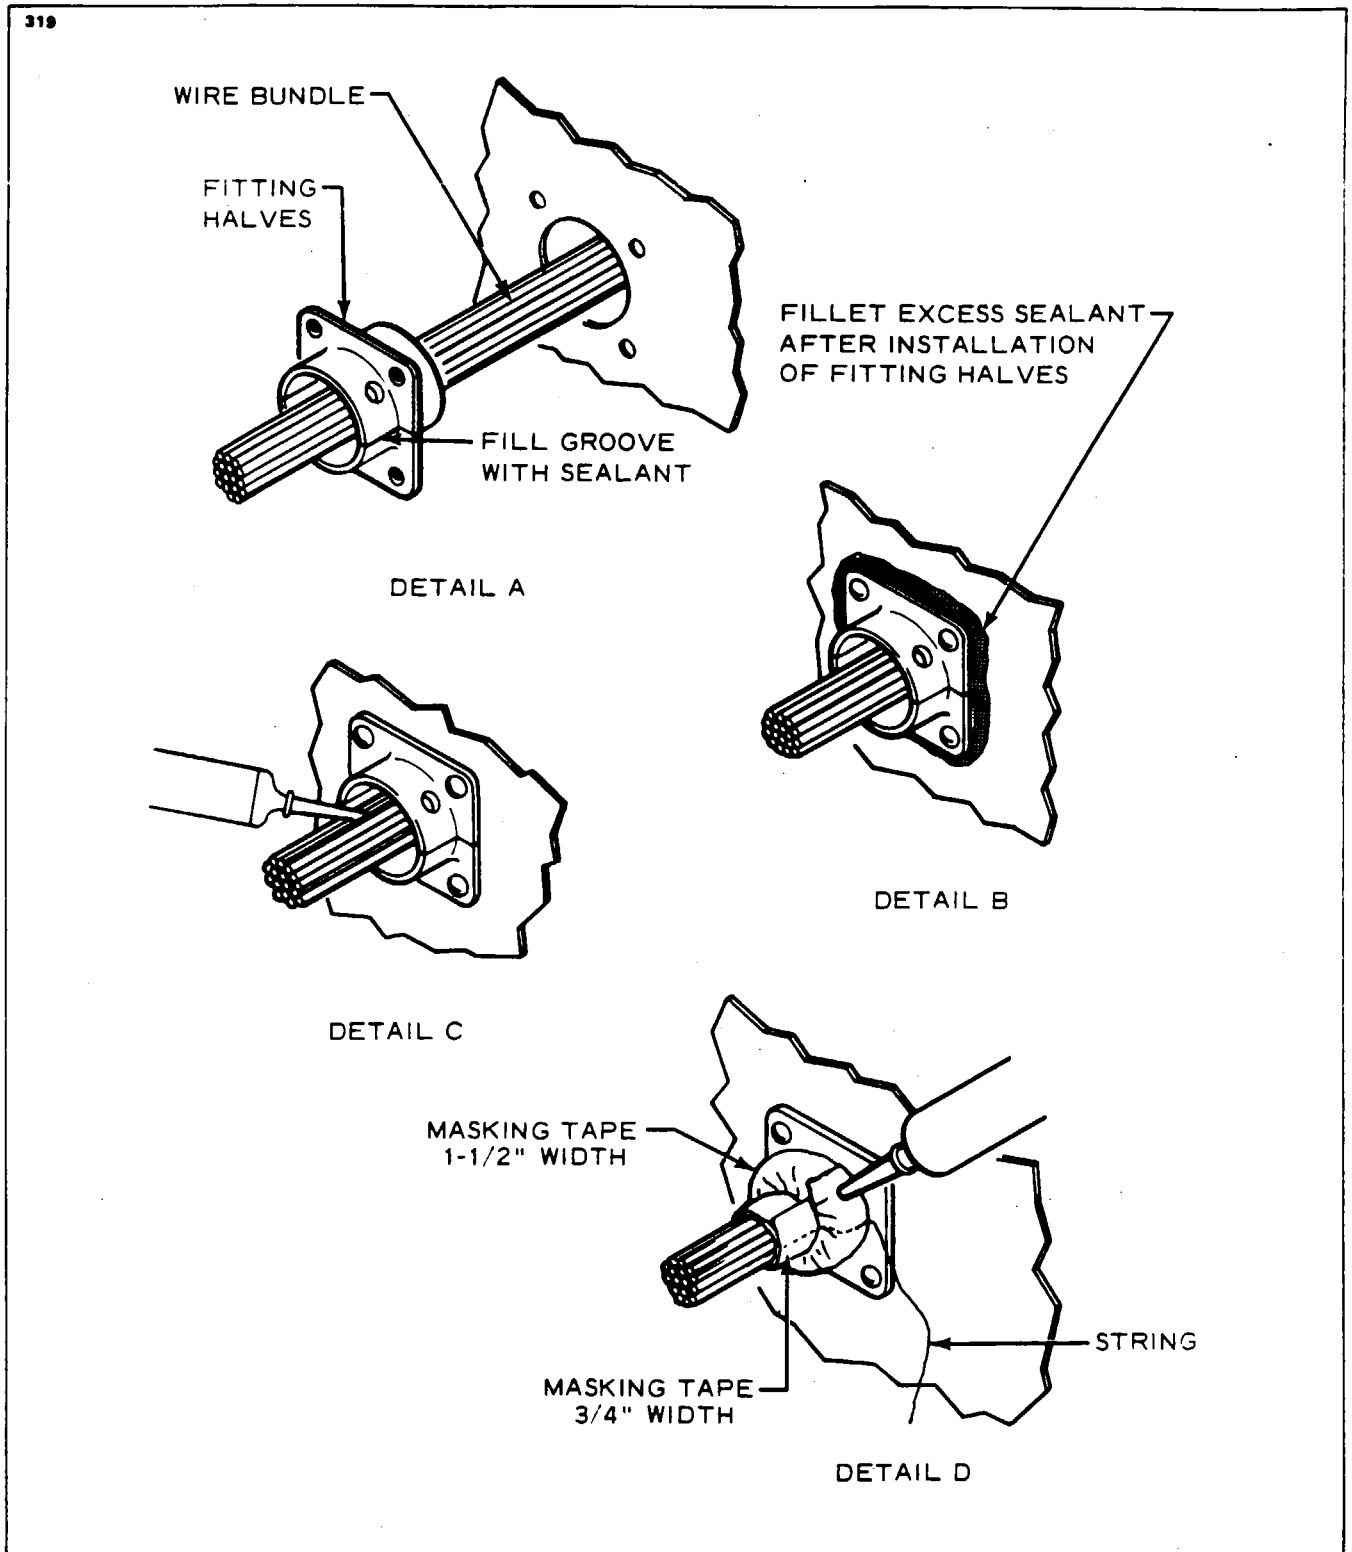

Figure 51-19. Wire Harness Seals
SEALING ELECTRICAL HARNESSSES. (Refer to Figure 51-19.)
- D. Fill the groove in the mounting flange of the fitting halves with sealant. (Refer to detail "A" of Figure 51-19.)
- F. Fillet seal the extruded sealant around the sides of the mounting flange as shown in detail "B" of Figure 51-19.
- G. Put the nozzle of the sealant gun in the center of the wire harness and work sealant throughout the wires inside the seal fitting as shown in detail "C" Figure 51-19.
- H. Place a strong piece of string against the seal assembly, parallel with the wires. (Refer to detail "D" of Figure 51-19.)
- I. Wrap the fitting halves with three turns of 1.50 inch wide masking tape. (Refer to detail "D" of Figure 51-19.)
- K. Wrap the crimped end with three turns of .750 inch masking tape. (Refer to detail "D" of Figure 51-19.)